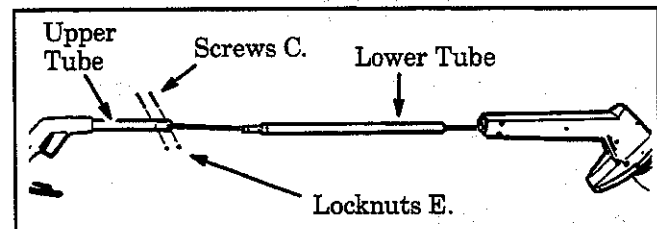

Figure 2
2. Insert lower tube into the upper tube (Figure 2) and align screw holes.
3. Insert the two screws C., one at a time, through the aligned holes. Figure 2. Thread locknut E. onto screws and tighten securely.